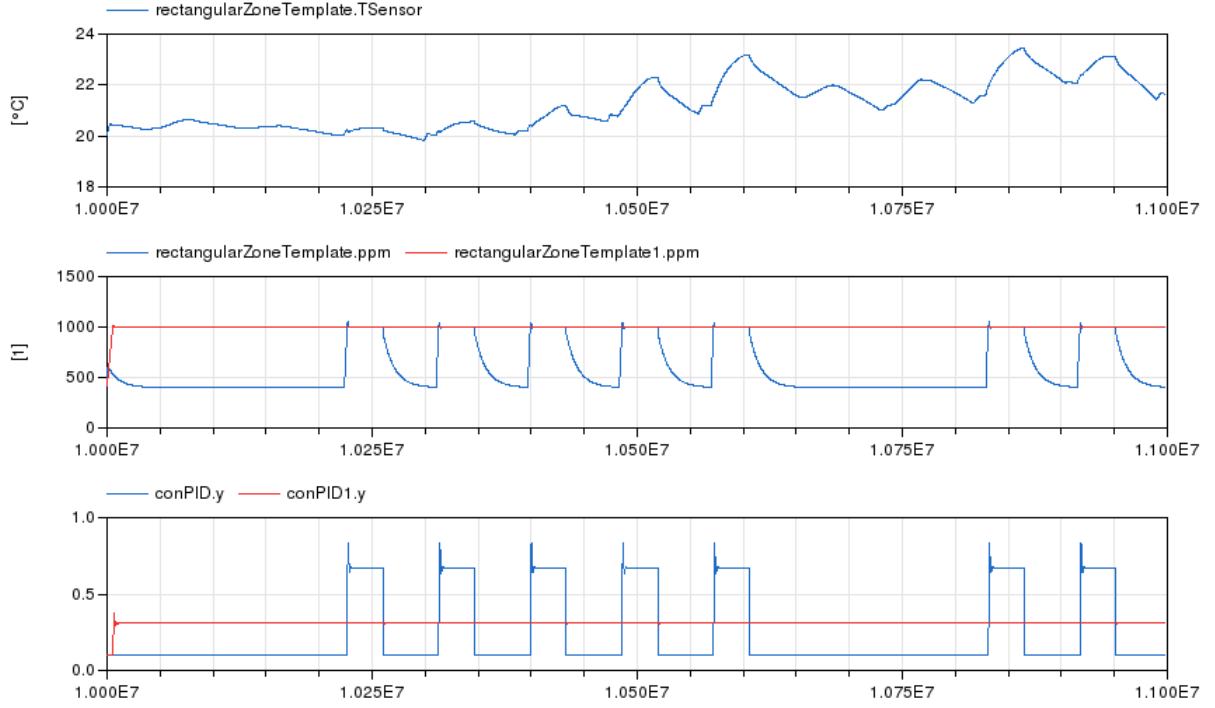

Figure 5: Zone temperature, CO2 concentrations and PI control signals.
**Reference result** The zone temperature, CO2 concentrations and PI control signals are plotted in Figure 5. Note the small overshoot of the PI controller outputs and the exponential decay towards the outdoor CO2 concentration when there are no occupants.